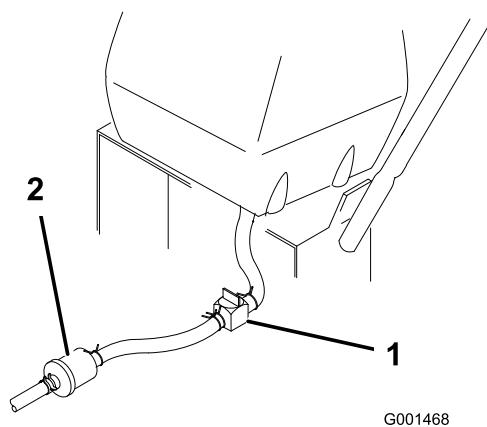

Figure 26
- Close the fuel shut-off valve at the fuel tank (Figure 26).
- Squeeze the ends of the hose clamp together and slide it up the fuel line away from fuel filter (Figure 26).
- Pull the fuel line off the fuel filter (Figure 26). Open the fuel shut-off valve and allow the gasoline to drain into a gas can or drain pan.
3. Close fuel shut-off valve at the fuel tank (Figure 26).
7. Open fuel shut-off valve at fuel tank (Figure 26).